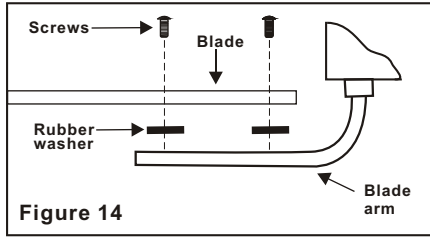

Figure 14
Step 1 Attach the blades to the blade arms using three screws and rubber washers as shown in Figure 14. Start a screw into the arm, do not tighten. Repeat for the 2 remaining screws and washers.